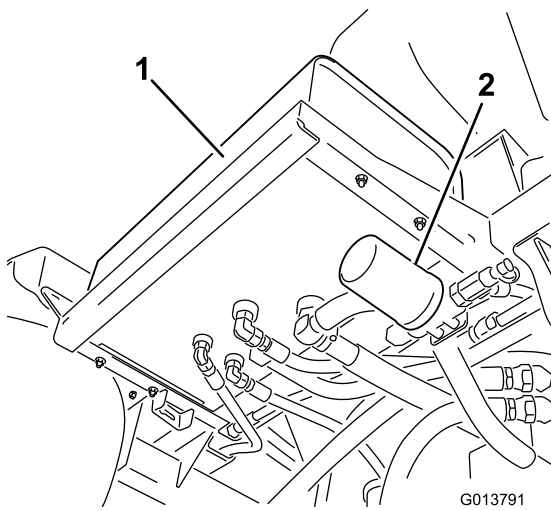
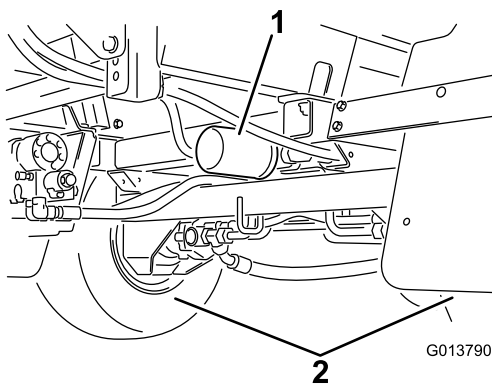

Figure 88
Figure 89
2. Locate the 2 hydraulic filters on the machine (Figure 88 and Figure 89).